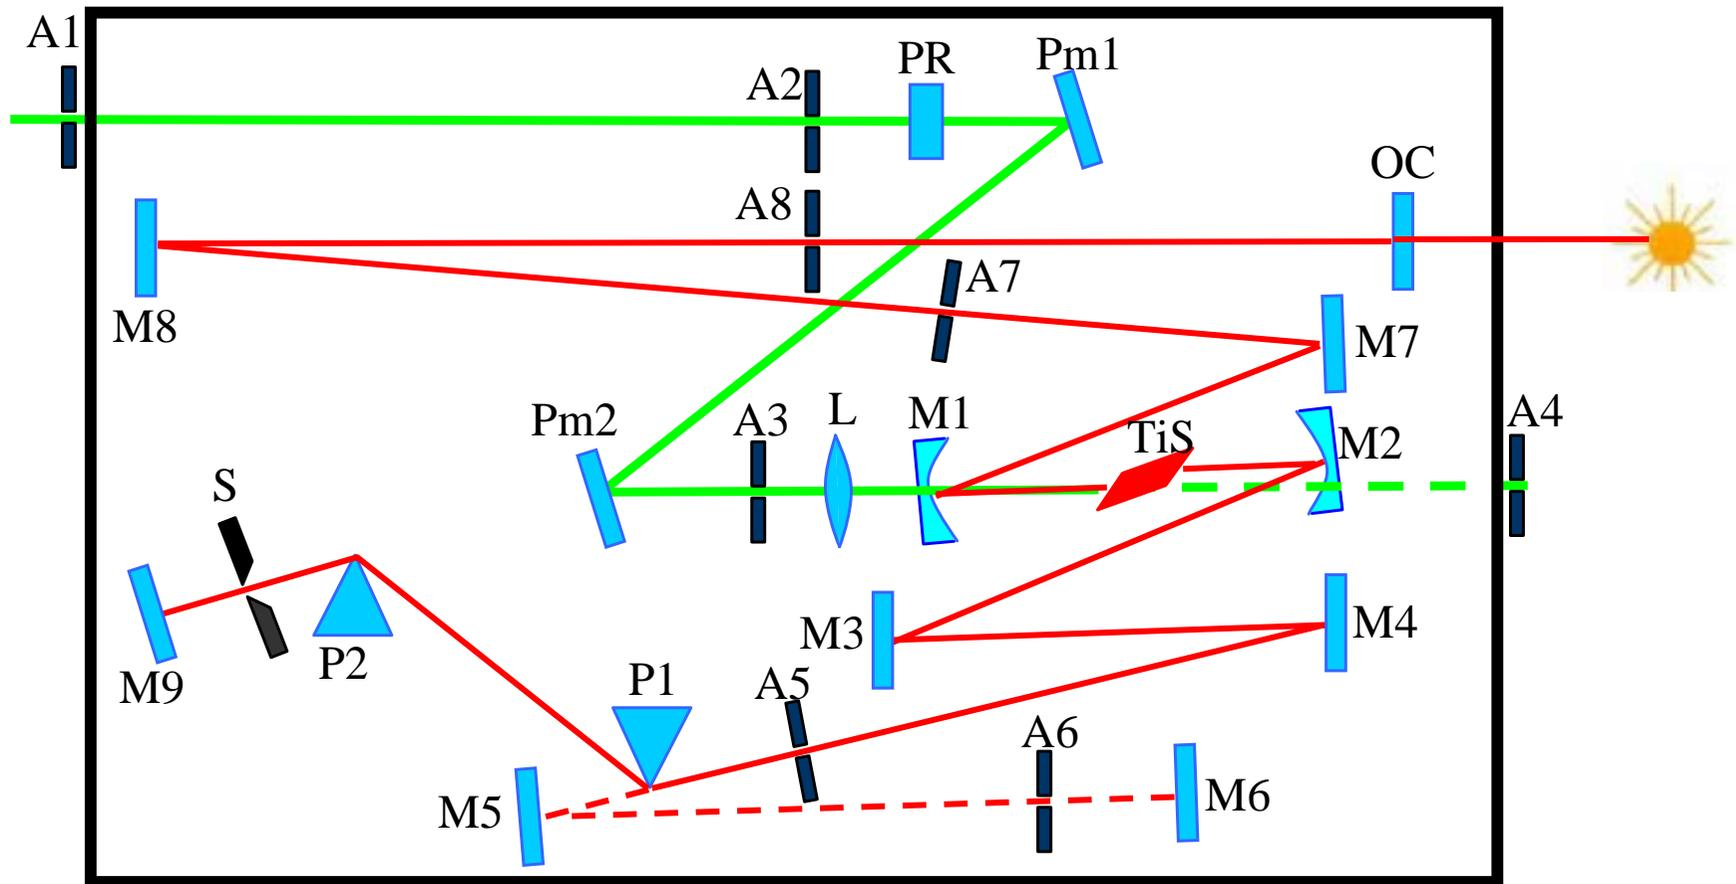

Figure 2. Basic Layout of Trestles-50F.
Del Mar Photonics modeled, analyzed and optimized the cavity design for optimum performance in minimal space. The result was a 8 mirror folded cavity (Figures 2 and 3). This scheme incorporates 8-mirror cavity (M1, M2, M3, M4, M9, M7, M8, OC), Ti:Sapphire crystal (TiS), lens for focusing of pump radiation (L), two prisms (P1 and P2) and slit (S).
The scheme of Trestles-50F depicted in Figures 2 and 3 consists of the following optical elements for the basic configuration: